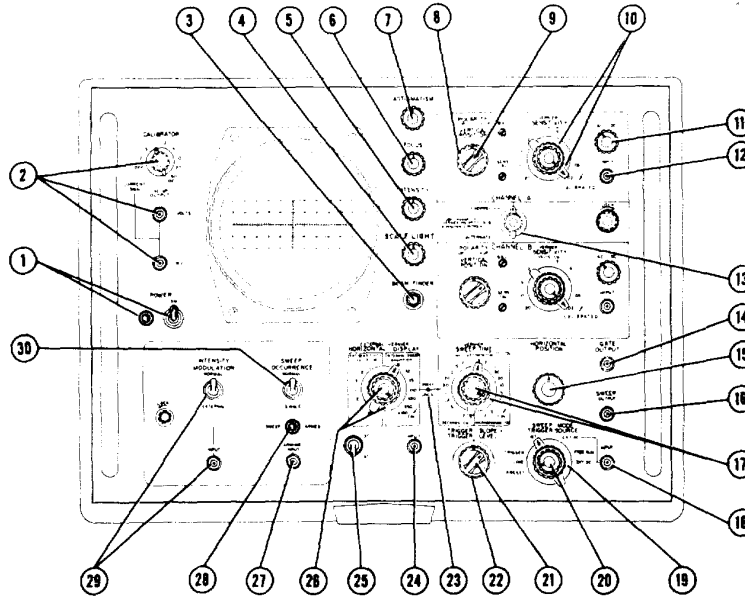

Figure 3-1. Oscilloscope Front-Panel Controls and Connectors
The controls and connectors of the oscilloscope which are normally used by the operator are shown in figure 3-1 and are described in table 3-1. The numbers in figure 3-1 relate each control to the descriptive text in table 3-1 and do not indicate a preferred order of operation.
(INDEX NUMBERS REFER TO FIGURE 3-1)
After performing turn-on procedure in table 3-2, steps 1 through 14, connect the external signal to the Horizontal INPUT connector (24, figure 3-1) through either a test prod, a BNC-terminated coaxial cable, or plain wire leads with a BNC -to-binding post adapter. Then set the HORIZONTAL DISPLAY selector (26, figure 3-1) within its EXT SENSITIVITY sector to obtain the desired deflection in VOLTS, CM. To read the voltage of the horizontal deflection directly from the CRT trace, set the EXTERNAL VERNIER (26, figure 3-1) to CAL. Set the Input Coupling switch (25, figure 3-1) to AC or DC as required (refer to item 25, table 3-1).
The vertical plug-in provides two types of dual-trace operation as selected by the Vertical Presentation Switch (13, figure 3-1): ALTERNATE and CHOPPED. On ALTERNATE operation, the output of one channel is shown on the CRT during one sweep and
Differential operation, as selected by the A-B position of the Vertical Presentation Switch (13, figure 3-1), permits observation of the difference between two signal voltages. It is useful for observing signals which are balanced with respect to ground.
In differential operation, ripple or stray pickup which is common to the two main signals is attenuated. With both the CHANNEL A and CHANNEL B SENSITIVITY switches (10, figure 3-1) set to .02 VOLTS/CM, common-mode signals are attenuated at least 100: 1; with the SENSITIVITY switches at other settings, common-mode signals are attenuated at least 20: 1. However, the amplitude of common-mode signals (before attenuation) should not exceed the equivalent of 100 centimeters of deflection. For example, if both SENSITIVITY switches are set to .02 VOLTS/CM, the common-mode signal should not exceed 2 volts (20 volts at probe input). Excessive common-mode signals overload the amplifiers, causing distortion.
During differential operation, the SENSITIVITY and the AC-DC Input Coupling switches (10 and 11, figure 3-1) of both channels operate on their respective signals; however, only the Channel A VERTICAL POSITION, POLARITY, and VERNIER controls (8, 9, and 10, figure 3-1) are effective.